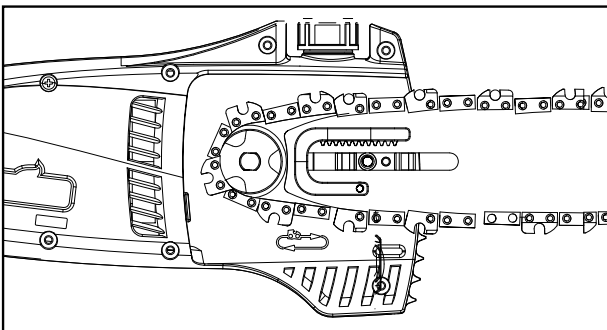

Figure 2 - Guide bar and chain installation
3. Insert the guide bar and chain into the mount on the pole saw (Figure 2). In the process, guide the chain around the pinion and hang the guide bar in the chain tensioning bolts.